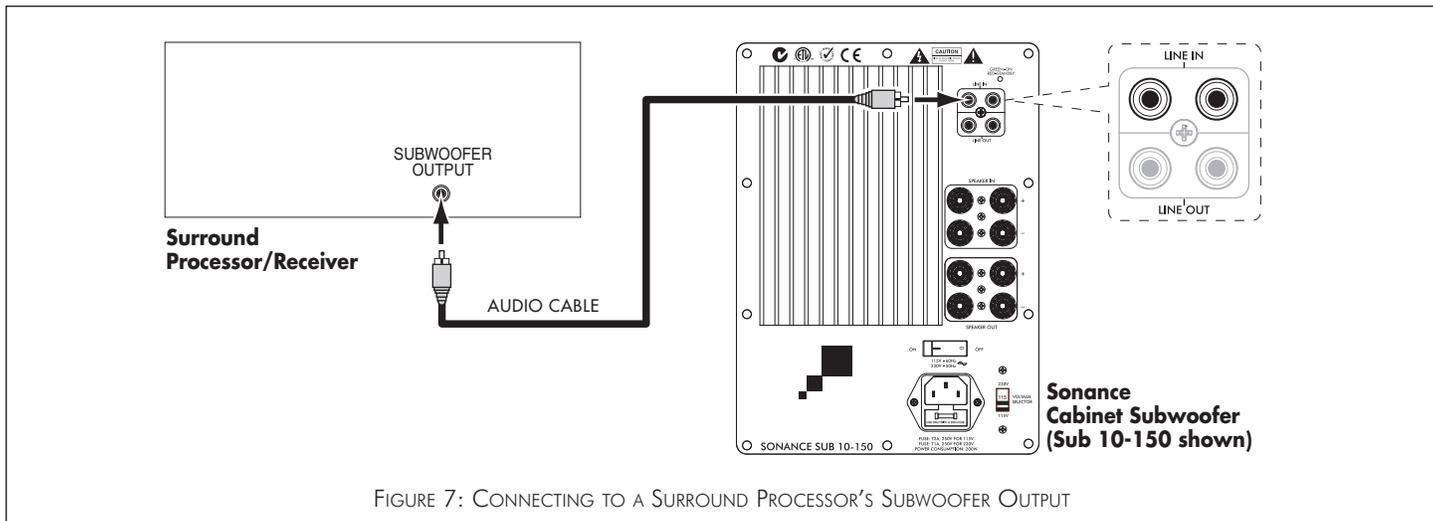

FIGURE 7: CONNECTING TO A SURROUND PROCESSOR’S SUBWOOFER OUTPUT
**1. Surround sound processor, surround sound receiver, or stereo preamp with a dedicated Subwoofer Output (see Figure 7):**